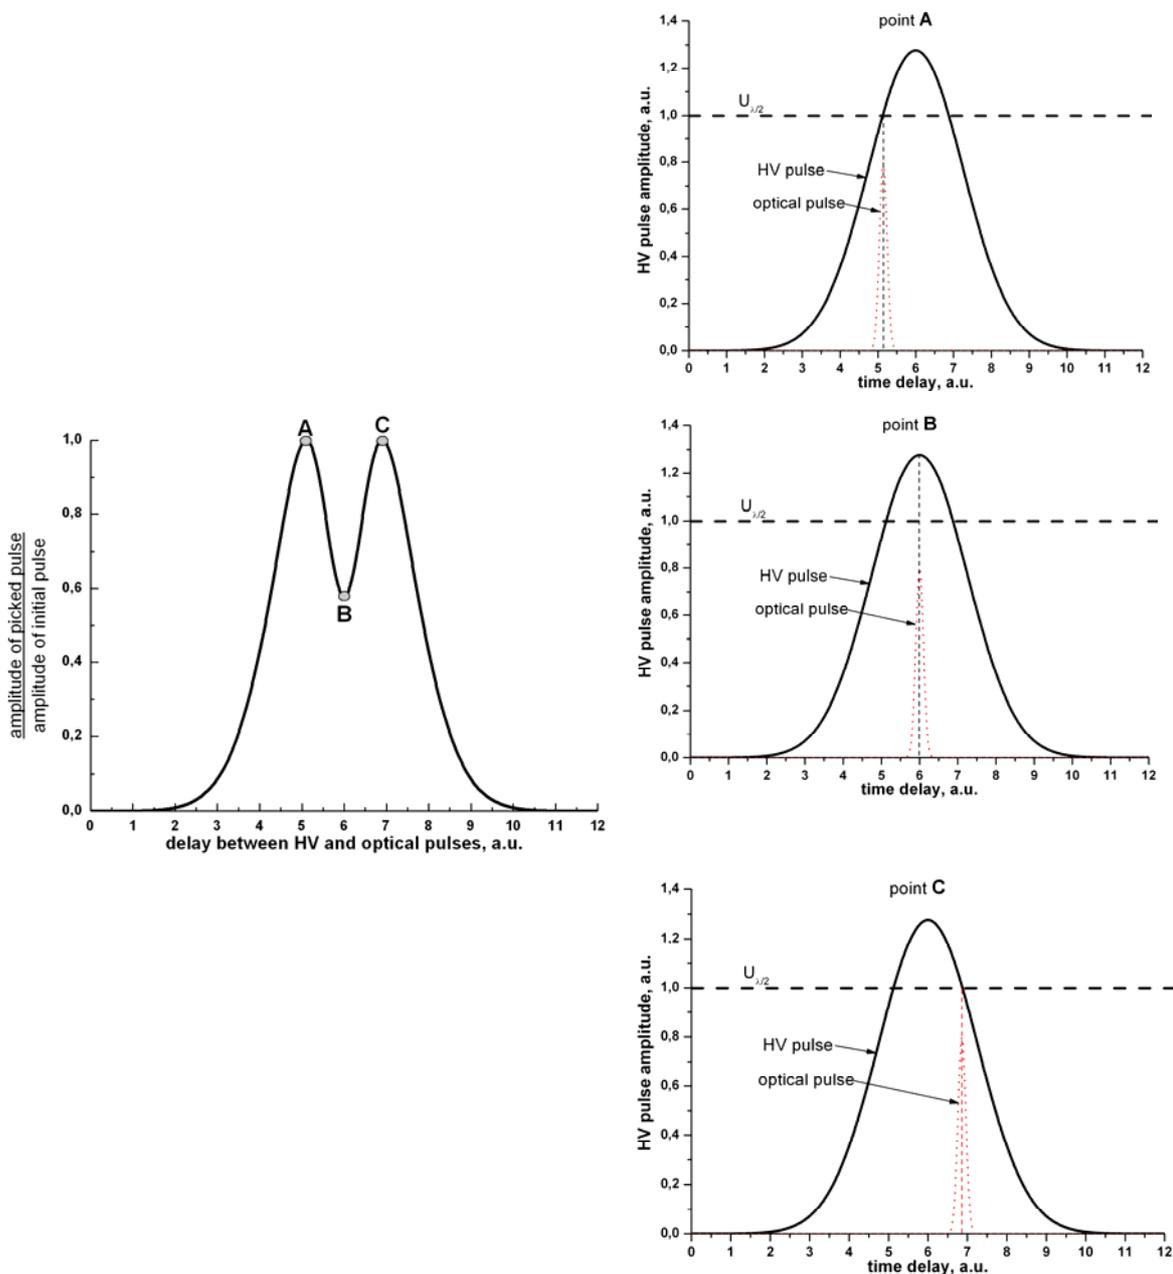

Figure 6. Half-voltage amplitude setup.
2. Change finely the pulse picker start delay value in the menu sections "Delay channels" → "Channel 0" → "Delay 0 fine". The picked pulse amplitude change will be observed when changing the delay: amplitude increase to maximum, amplitude decrease, amplitude increase to maximum (see fig. 6, left picture). This effect is explained by the fact that a high-voltage pulse has an amplitude peak that exceeds the half-wave voltage value on the given
wavelength (see fig. 6, right pictures). When the optical pulse and the peak of the HV pulse match in time, more than a 90-degree rotation of the radiation polarization plane occurs.
3. Set up the HV pulse amplitude to equal the amplitude of the half-wave voltage for the given wavelength. Accordingly, set the "Delay 0 fine" in point B (see fig. 6). By slowly decreasing the supply voltage ("Delay channels" → "Channel 0" → "Amplitude 0") of HV shutter achieve maximum amplitude of the selected pulse.